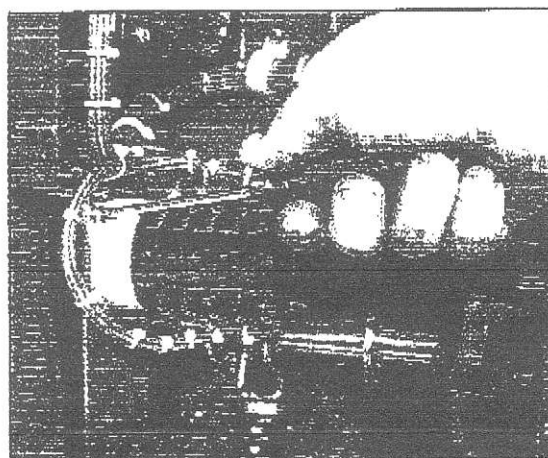

Fig. 57 Remove the 4 Screws
- 4) Remove the four screws which attach the auxiliary switch to the circuit breaker (Fig. 57).